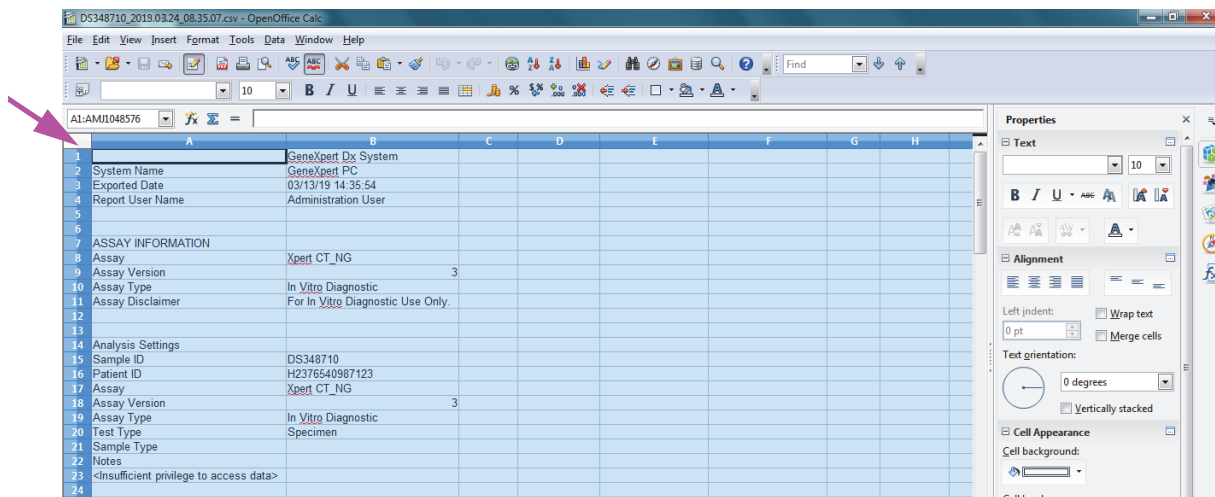

Figure 5-56. All Cells Selected
4. Once the file is open, click on the upper left corner of the worksheet to highlight all the cells, as shown in Figure 5-56.